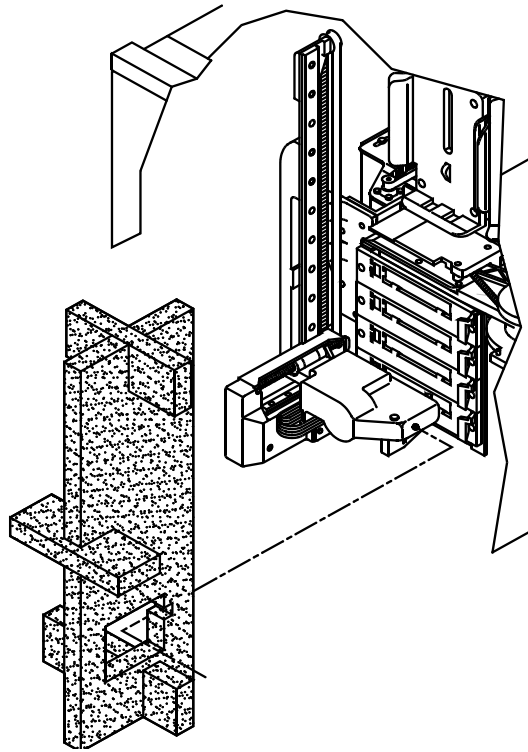

Figure 7-4 Installing the packing foam in the library
1. Insert the packing foam next to the CHM, as shown in Figure 7-4.